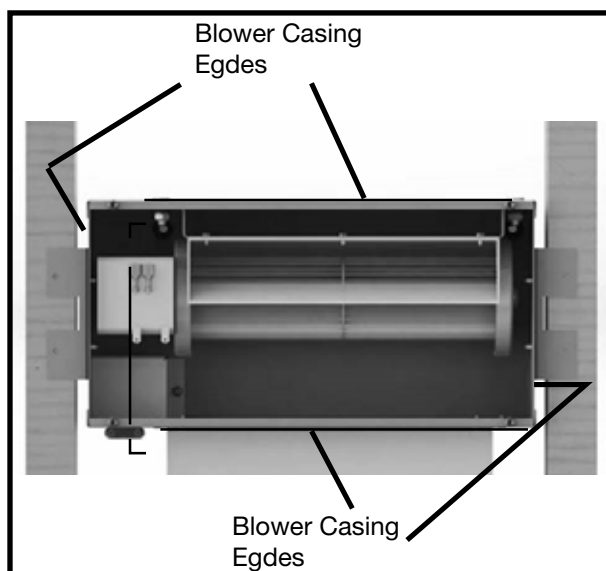

Figure 26: Blower details.
6. Attach the 10"(254) X 3 1/4"(83mm) Transition Boot to the Remote Blower Assembly and seal with aluminium duct tape. Run 6" diameter approved Type "B" flexible or ridged gas vent pipe (vent pipe is not include with this kit) between the blower and the fireplace. Fasten in place with screws and seal with aluminium foil tape.
9. Drywall and facing material must not cover the opening in the blower assembly. Remove the Face Plate. Cut the drywall so the edges butt up against the outside of the blower casing edges (Figure 26), top, bottom and sides.